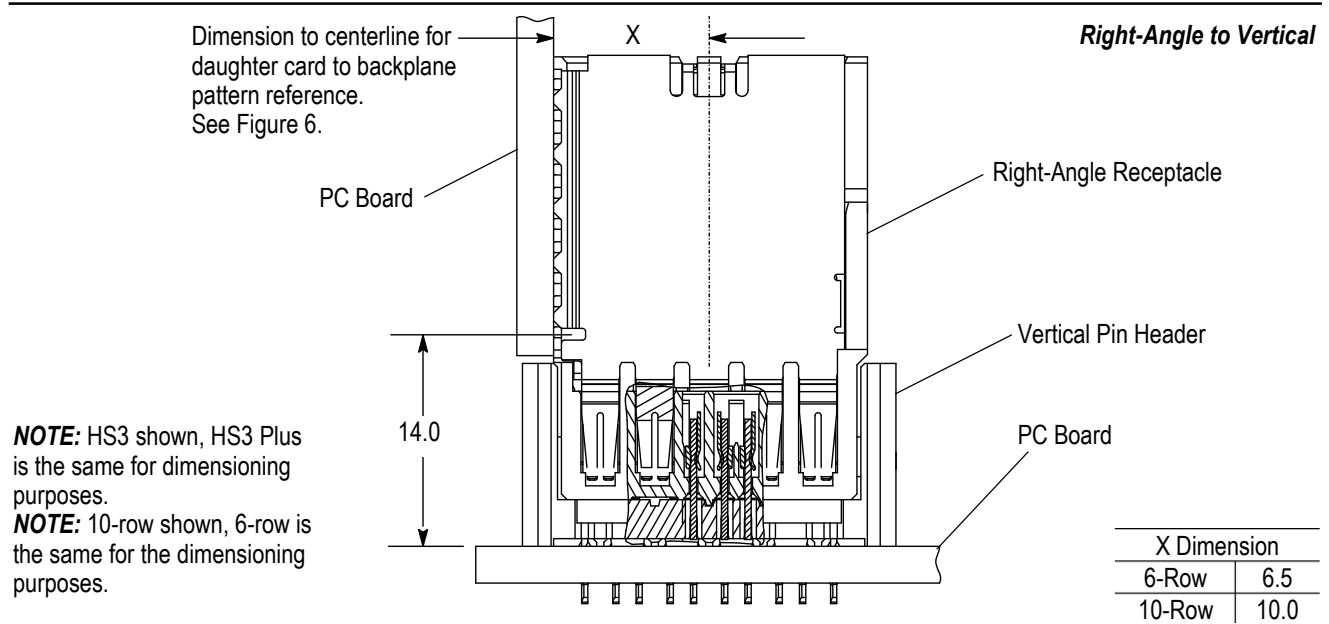

Figure 5
- Changed dimension and dimension line in Figure 5
Full mating of connectors is necessary to ensure a good connection. The dimension from the surface of the pc board to which the pin header is mounted and the first row of contacts in the receptacle must be as shown in Figure 5.